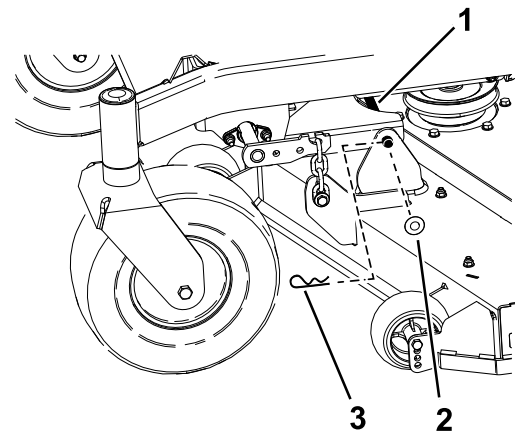

Figure 67
9. Secure the link pin with the hairpin cotters and washers removed previously (Figure 67).